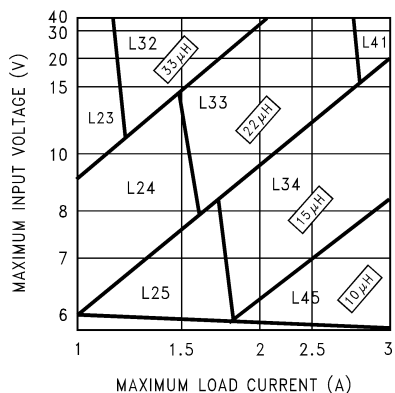
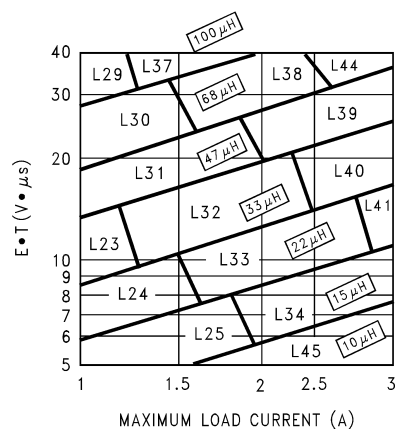

Figure 18. LM2673-3.3
Figure 21. LM2673-ADJ
Step 3: Determine the inductor required by using one of the four nomographs, Figure 18 through Figure 21. Table 1 provides a specific manufacturer and part number for the inductor.
Step 5: Determine an input capacitor from Table 6 and Table 9 for fixed output voltage applications. Use Table 3 or Table 4 to find the specific capacitor type. For adjustable output circuits select a capacitor from Table 3 or Table 4 with a sufficient working voltage (WV) rating greater than $V_{in\ max}$, and an rms current rating greater than one-half the maximum load current (2 or more capacitors in parallel may be required).
Step 3: Use the nomograph for the 3.3V device, Figure 18. The intersection of the 16V horizontal line ($V_{in} \text{ max}$) and the 2.5A vertical line ($I_{load} \text{ max}$) indicates that L33, a 22 μ H inductor, is required.
Step 3: To use the nomograph for the adjustable device, Figure 21, requires a calculation of the inductor Volt•microsecond constant ($E \cdot T$ expressed in $V \cdot \mu S$) from the following formula:
Using Figure 21, the intersection of 27V• μS horizontally and the 2A vertical line ($I_{load\ max}$) indicates that L38, a 68 μH inductor, should be used.
When using the adjustable device in low voltage applications (less than 3V output), if the nomograph, Figure 21, selects an inductance of 22μH or less, Table 12 and Table 13 do not provide an output capacitor solution. With these conditions the number of output capacitors required for stable operation becomes impractical. It is recommended to use either a 33μH or 47μH inductor and the output capacitors from Table 12 or Table 13.